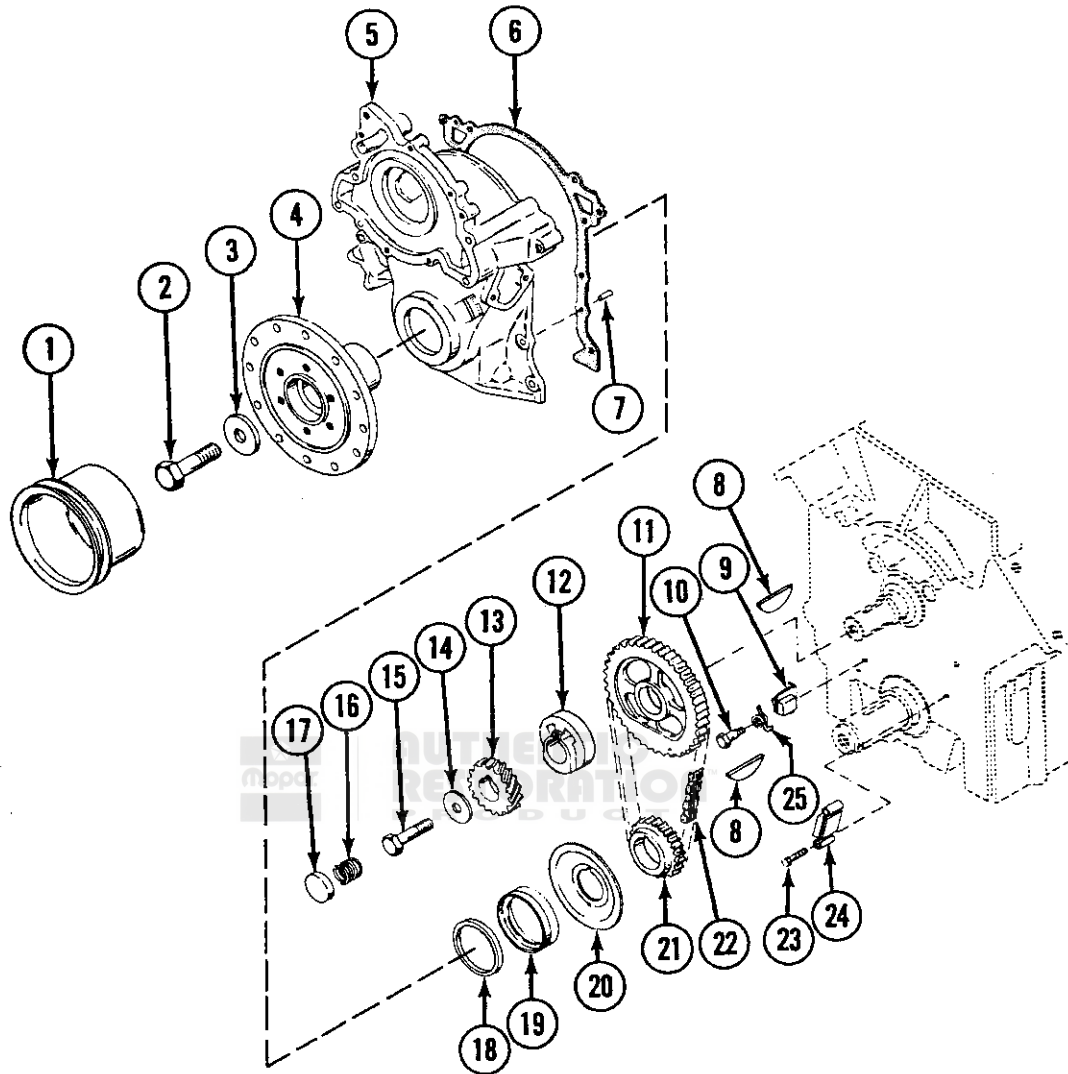

FIG. D1-38—TIMING CHAIN, TIMING GEARS AND COVER
- f. Install distributor drive gear on camshaft. Secure gear and eccentric to camshaft with retaining washer and bolt. Torque bolt 40 to 55 lb-ft. [5,53 a 7,6 kg-m.]. Install camshaft thrust retainer assembly onto camshaft retaining bolt. Refer to items 16 and 17 Fig. D1-38.